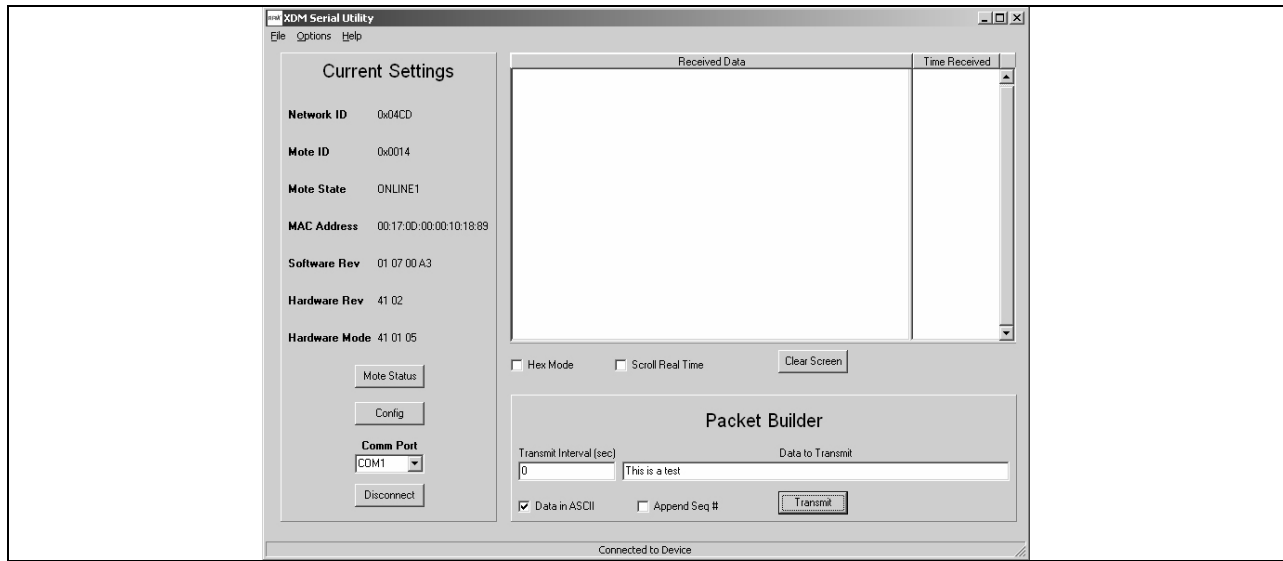

Figure 9.1.5
8. Minimize the *xdmconsole.exe* screen and start *xdmutility.exe*. Set *Comm Port* to match the PC serial port where the XDM2510H is connected. A window similar to Figure 9.1.5 will be displayed. Press Transmit to send a test message to the XG2510HE gateway.